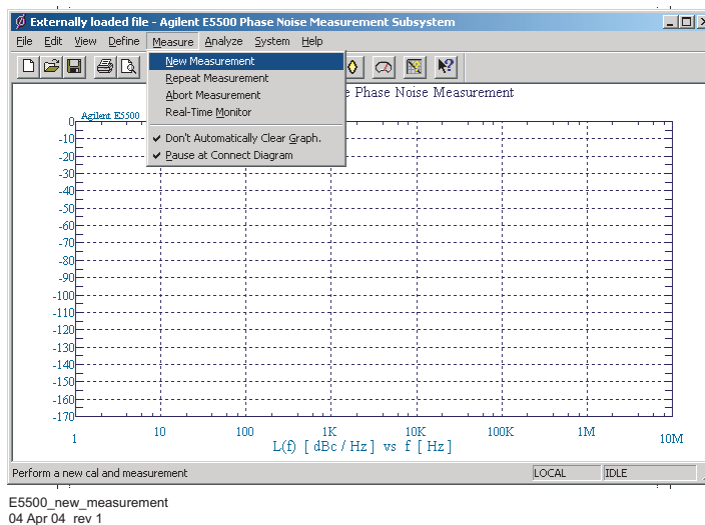

Figure 42 Selecting new measurement
- 1 From the **Measurement** menu, choose **New Measurement**. See Figure 42.